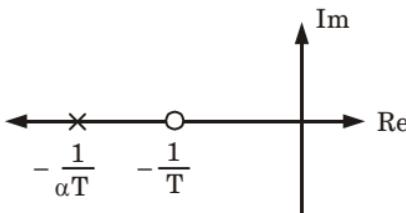

Fig. 5.1.2. Pole zero configuration.
- The pole zero configuration of eq. (5.1.2) shown in Fig. 5.1.2.